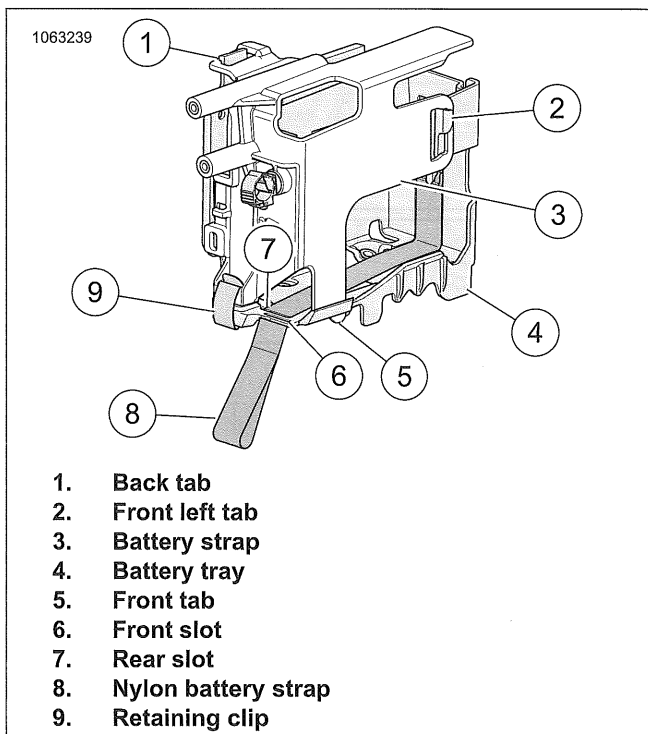

Figure 2-47. Battery Strap and Tray: (Removed for clarity)
6. See Figure 2-47. Remove battery strap (3).
- a. Disconnect back tab (2) from battery strap to battery tray (4).
- b. Disconnect front left tab (1) from battery strap to battery tray.
- a. See Figure 2-47. Position nylon battery strap (8) in bottom of battery tray (4).
- b. Feed nylon battery strap into back slot (7) of the battery tray.